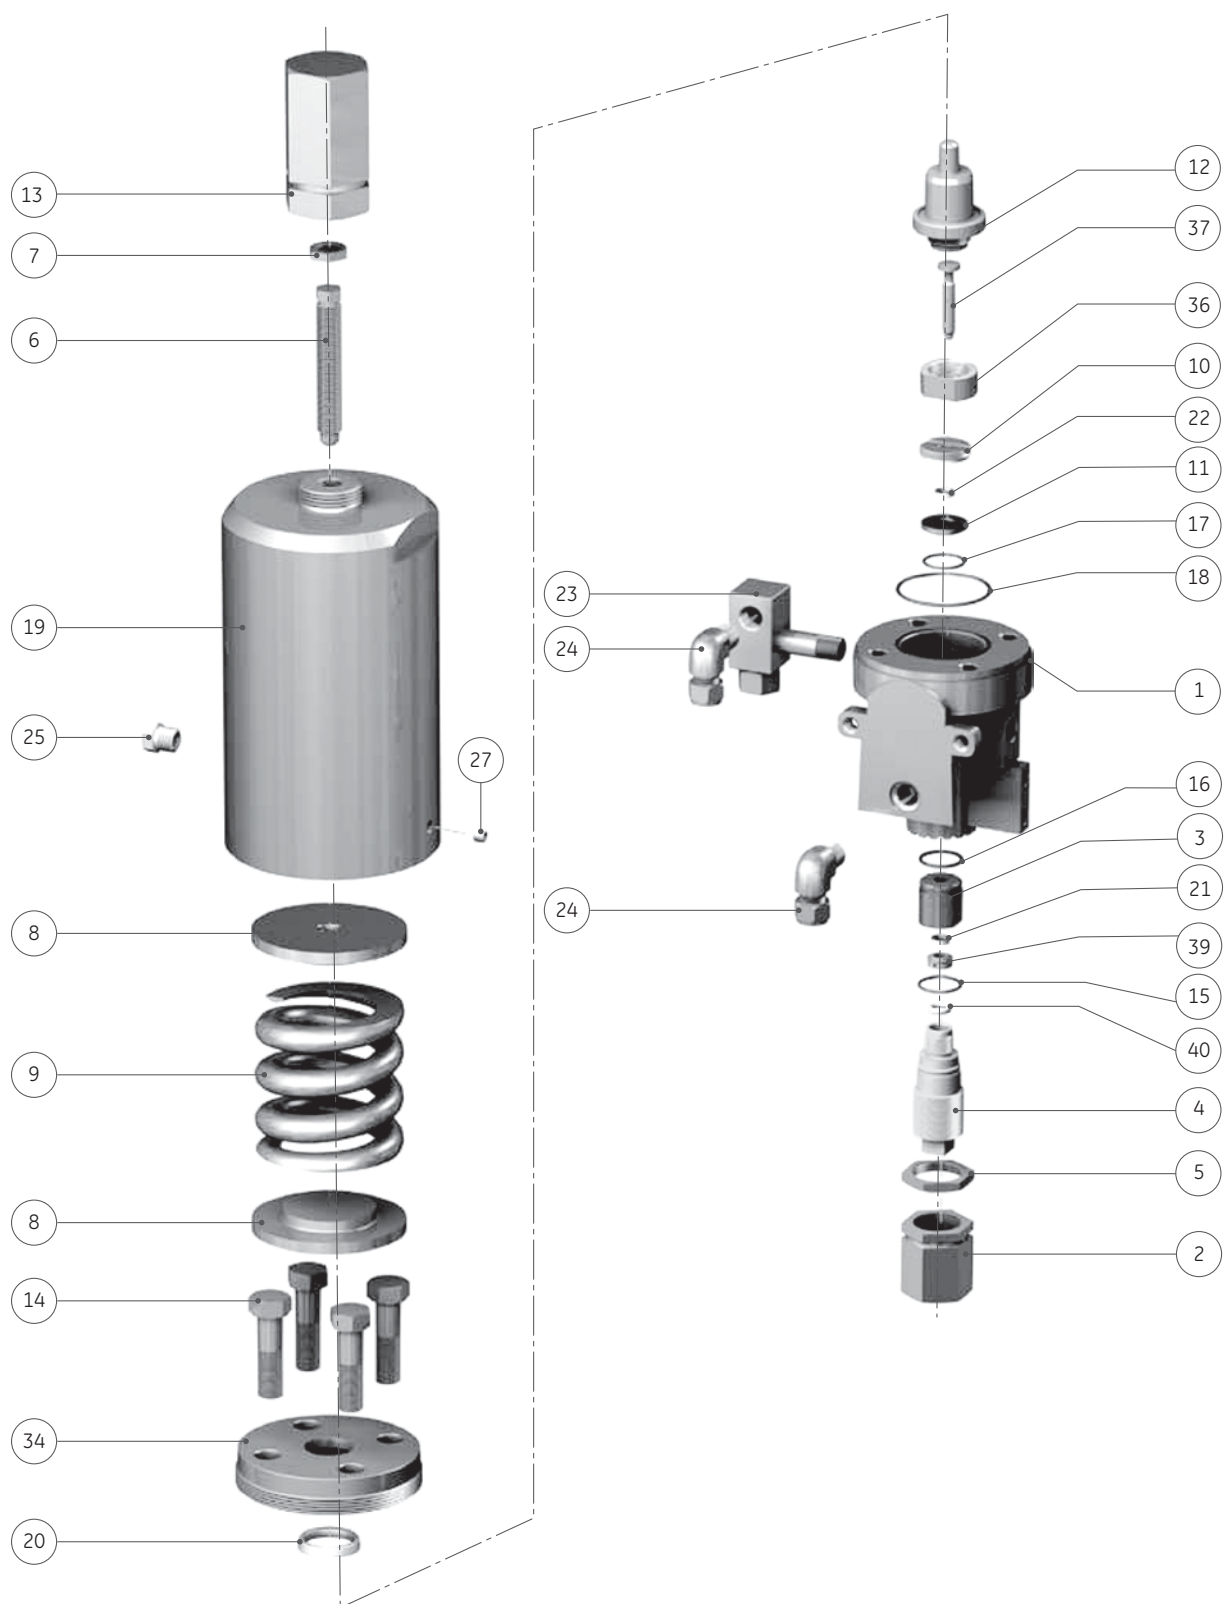

Figure 25: 39MV22 Disassembly
### C. 39MV22/72 Disassembly Figures 25, 26 and 23
3. If a lifting lever is installed, also use Figure 23 to remove the lifting lever assembly. Then return to Figure 25 or 26 to continue disassembly.